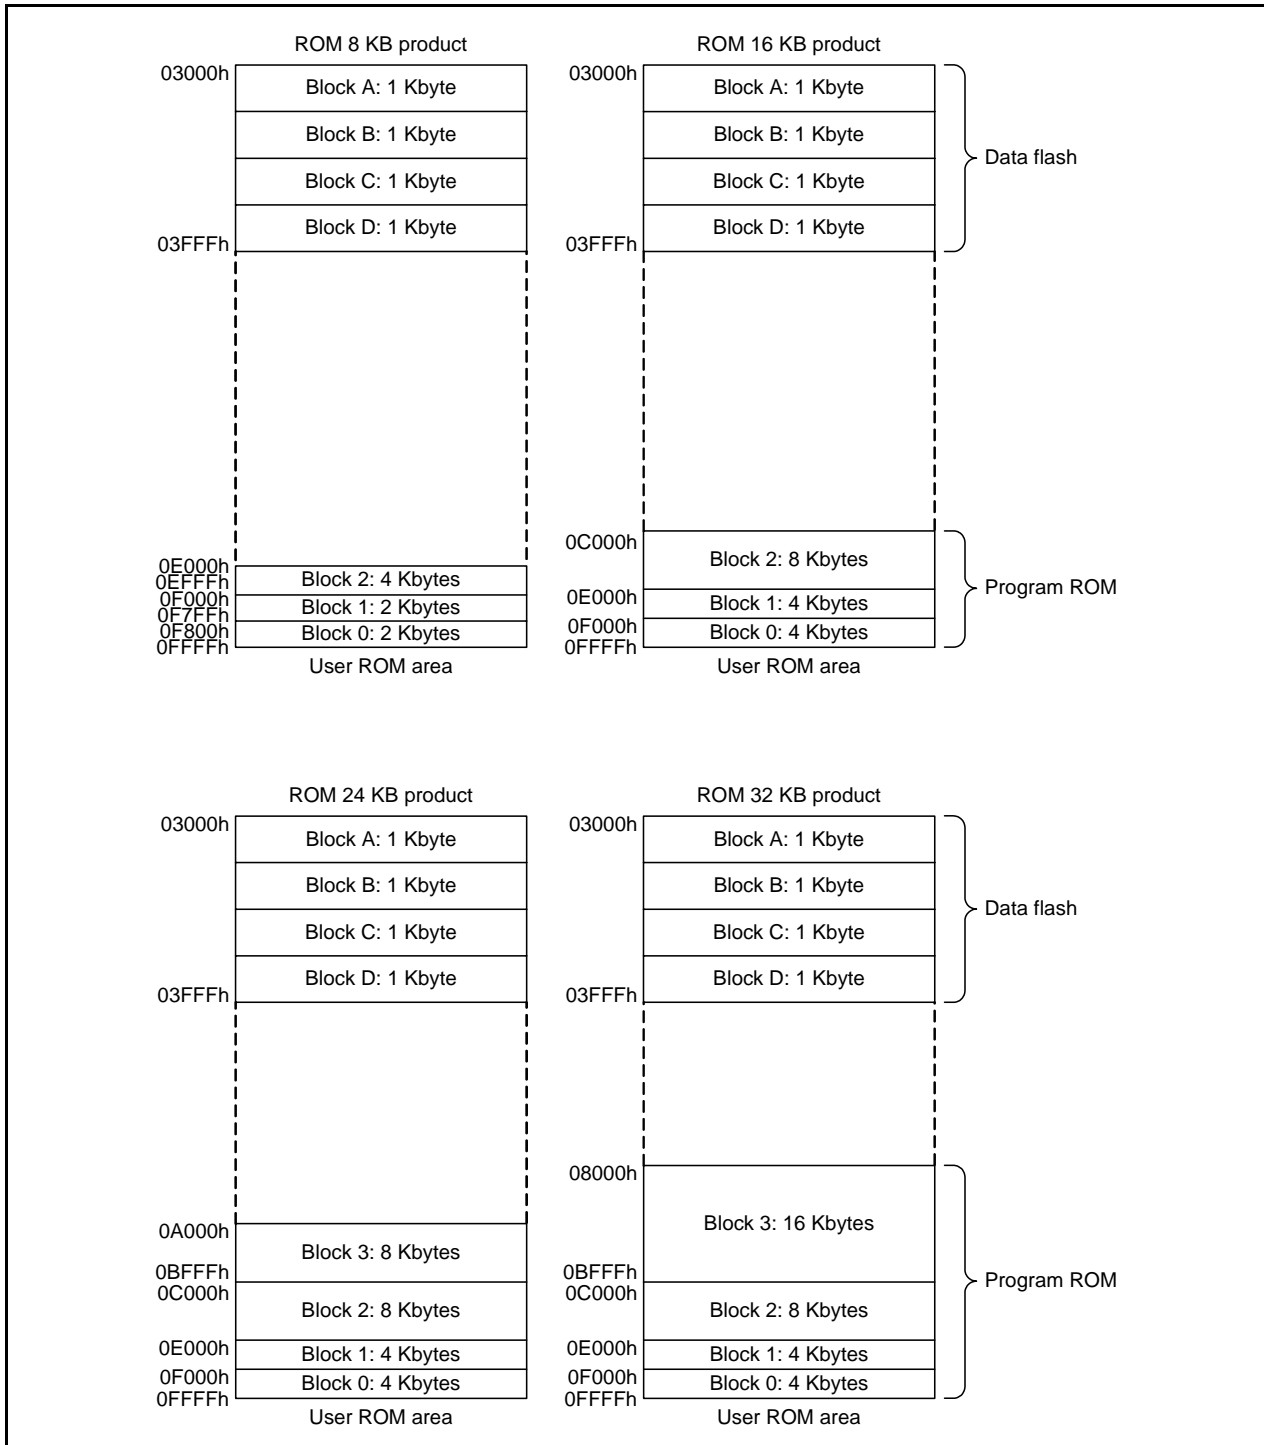

Figure 31.1 R8C/3GM Group Flash Memory Block Diagram
- The number of blocks and block division vary with the MCU. Refer to **Figure 31.1 R8C/3GM Group Flash Memory Block Diagram** for details.
Figure 31.1 shows the R8C/3GM Group Flash Memory Block Diagram.